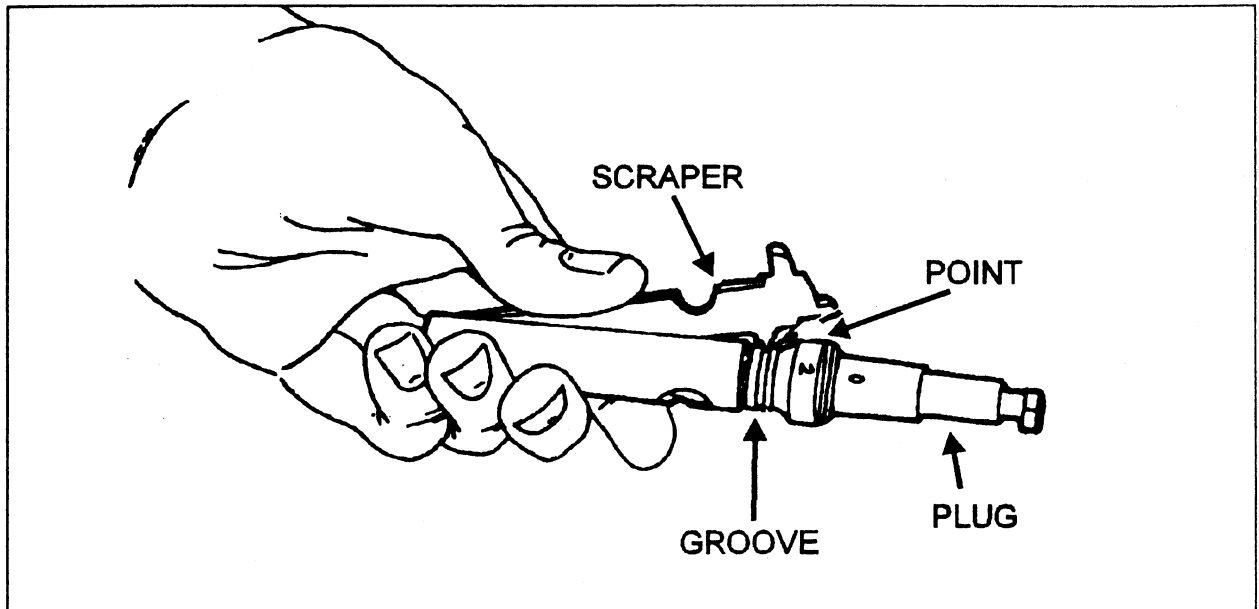

Fig 1-23. Cleaning the groove on the gas plug.
- (2) Fold the scraper. Press the point into the groove. Twist the plug back and forth to remove carbon from the groove on the plug (see fig 1-23).